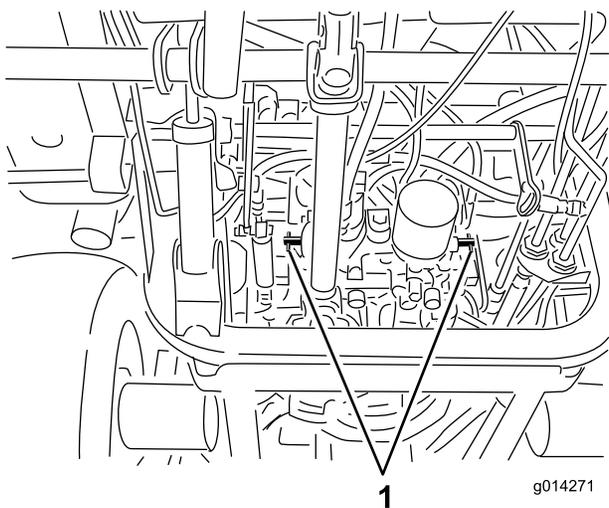

Figure 22
4. Rotate each by-pass valve counterclockwise 1 turn (Figure 22).
1. Rotate each bypass valve clockwise 1 turn and hand tighten them (Figure 22).
2. Torque the valves approximately 8 N·m (71 in-lb) as shown in Figure 22.